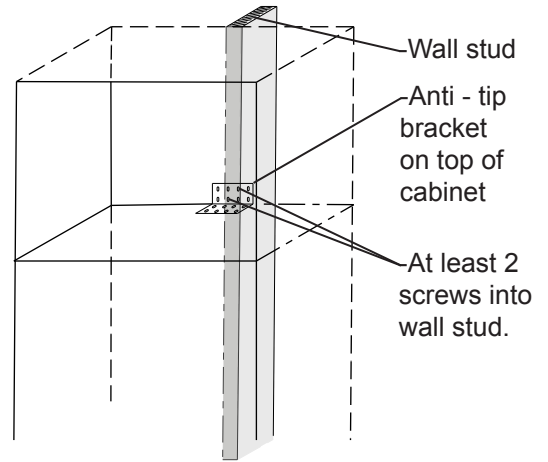

Figure 8
Locate a wall stud behind the unit that is suitable for securing the 5" (12.7cm) anti-tip bracket to the wall. The position of the bracket should be to the right of the power module and not behind the power module. Do not disturb the power module gasket on the left side of the unit. Place the anti tip bracket on top of the cabinet flush with the back of the cabinet. Mark and drill at least three holes (1/8" (3.2mm) into the top of the cabinet and secure the bracket to the top of the cabinet with at least (3) of the #8 x 5/8" screws provided. Secure the bracket to the wall stud with at least (2) #8 x 1 1/2" screws provided. See Figure 8.